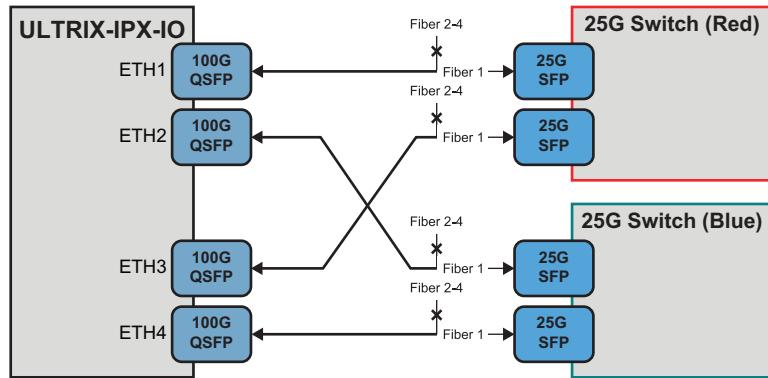

Figure 38 Workflow — QSFP/Breakout to SFP (25G Switches)
**Figure 38** shows a simplified workflow where the UTRIX-IPX-IO provides bi-directional communication via four 100G QSFP using breakout fiber cables connected to two 25G ethernet switches. In this workflow, the breakout cable fibers 2 to 4 are unused.